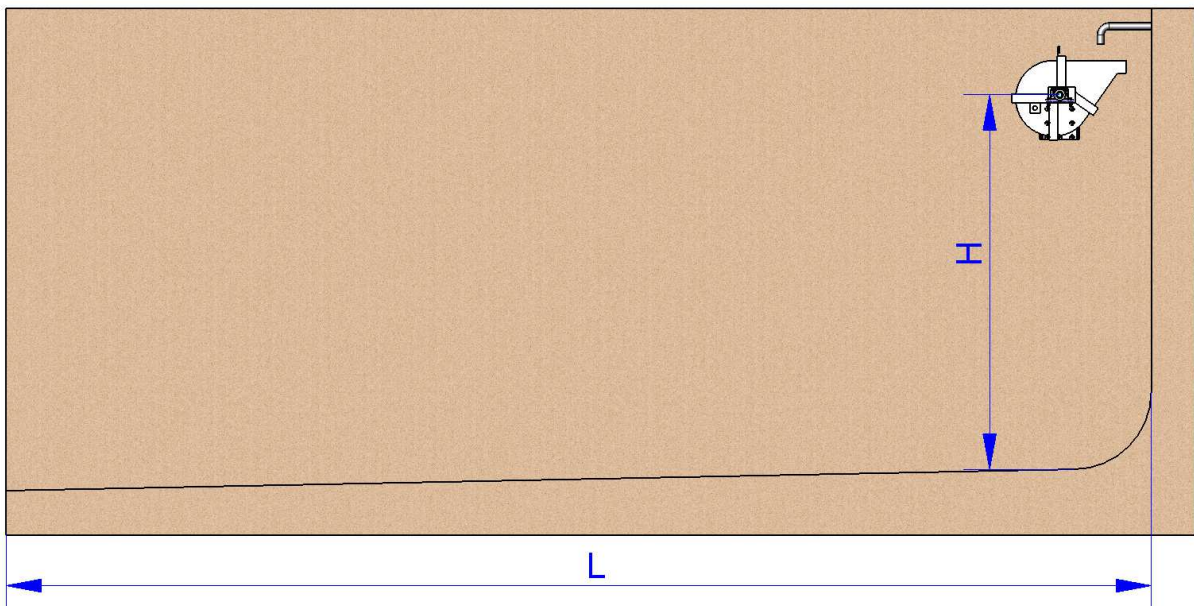

fig. 4
- It is very important that height (level "H" in fig. 4) from the base to the self-tipping cleaner is as large as possible. The higher up the cleaner is installed, the more powerful the wave generated.
- The capacity of the self-tipping cleaner is determined in line with the length (level "L" in fig. 4) of the channel to be cleaned. The longer the length of the channel, the greater the capacity required for the cleaner. This capacity usually varies between 200 and 2000 litres per metre of hopper.